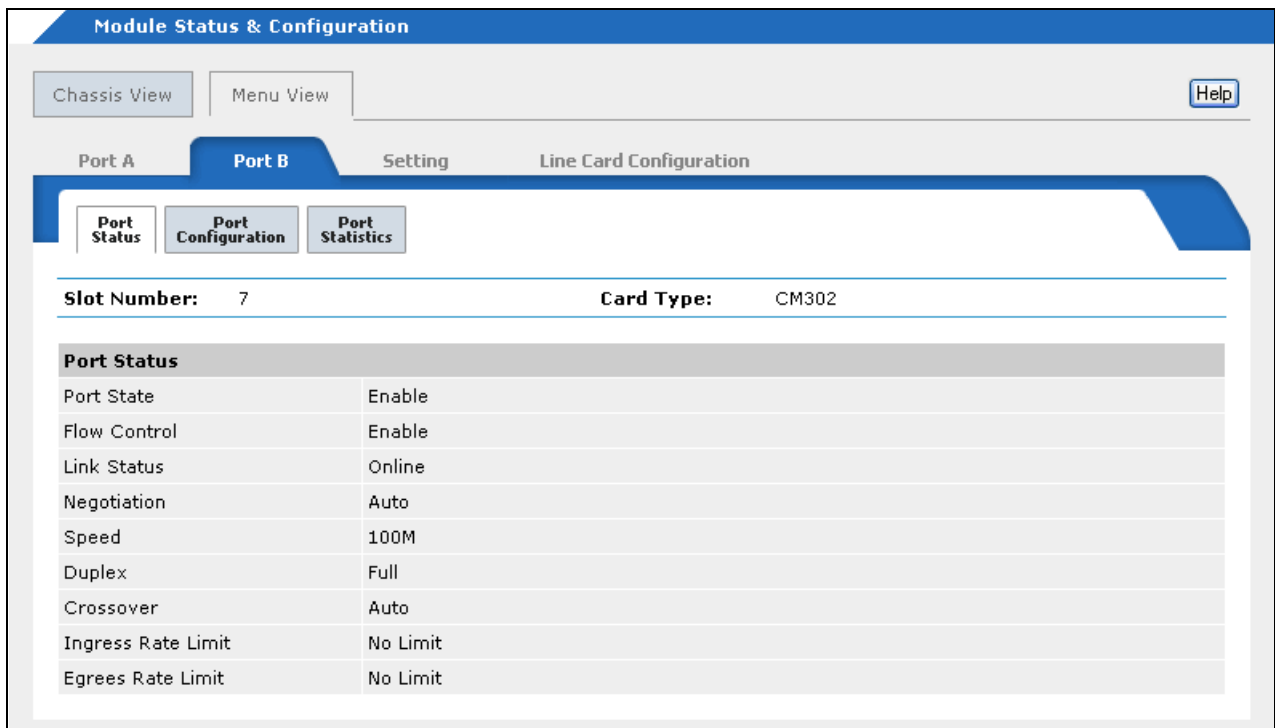

Figure 66. Port Configuration Window
4. Click the **Port Configuration** tab to display the current settings of the port. The example in Figure 66 is from Port B, the twisted pair port, on a line card.